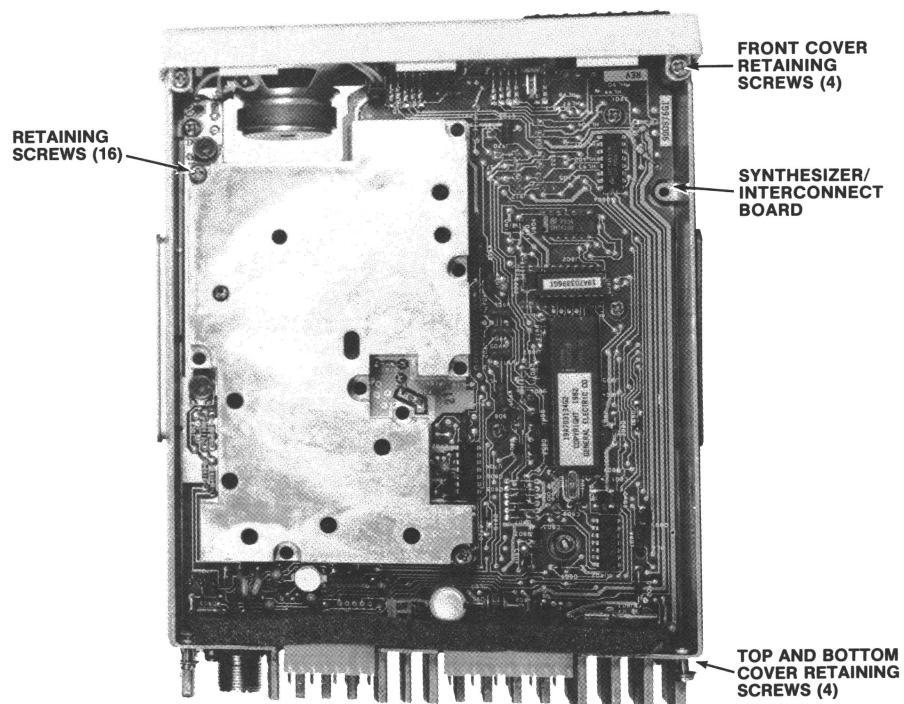

FIGURE 2 - SYNTHESIZER/INTERCONNECT BOARD REMOVAL
2. Remove the four screws in the front cover and remove cover, after removing the two screws securing the display board (See Figure 2).